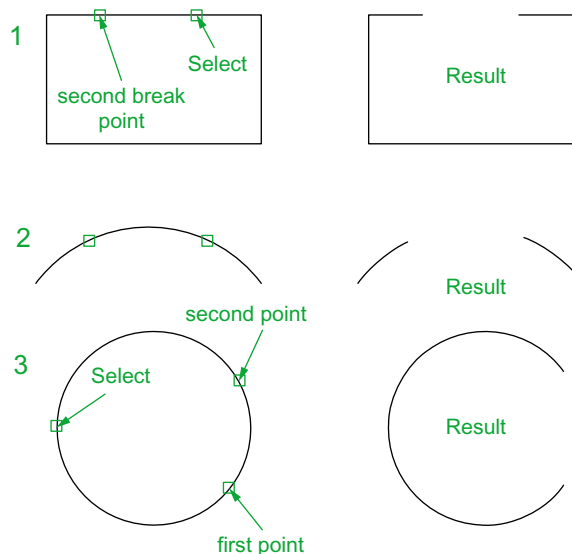

Fig. 5.36 Examples – **Break**
Examples – Break (Fig. 5.36)
1. Construct the rectangle, arc and circle (Fig. 5.36).
The results are shown in Fig. 5.36.